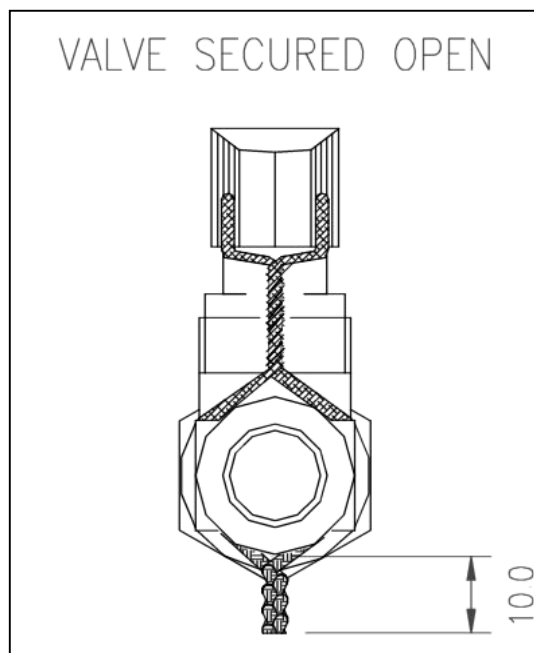

Figure 1-2. Safety Shut-Off Valve
**1-4.4.1 Relief Valve.** The tube is protected from over-pressurization with an adjustable safety relief valve (Figure 1-2). The stretcher will be shipped with the valve and it shall be set to a cracking pressure of 33 psi (74 fsw) when the unit is received by the fleet.